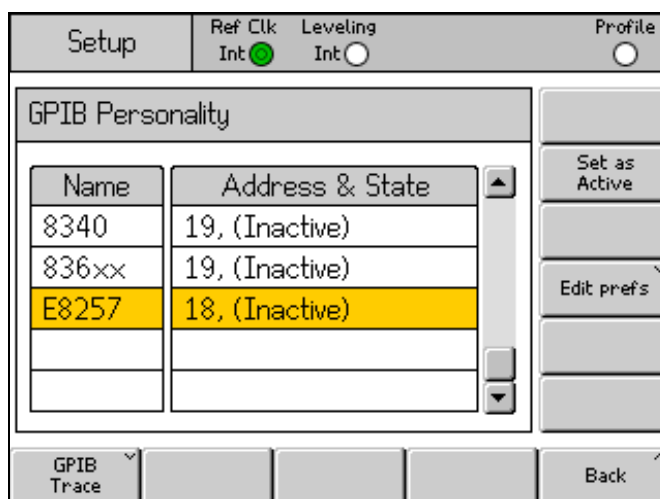

Figure 26. GPIB Personality Screen
3. Use **↶** and **↷** to select the E8257 personality. See Figure 26.